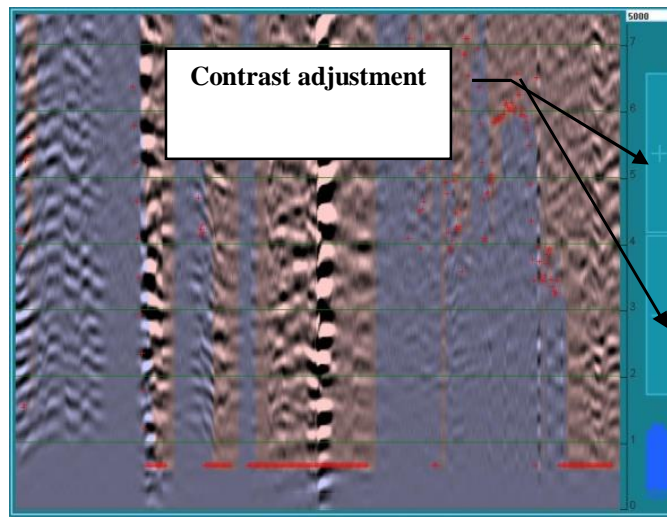

Fig. 5.13 Detector program window after the program start
- switch on the laptop power supply; once the computer is ready for operation, double click  tag (Detector.exe) by the left mouse button on the desktop to enable monitoring of the sounding results on the computer screen both in the movement detection mode and GPR mode. After the program start, the computer screen will display the sounding radargram window (fig. 5.13) in the movement detection mode.